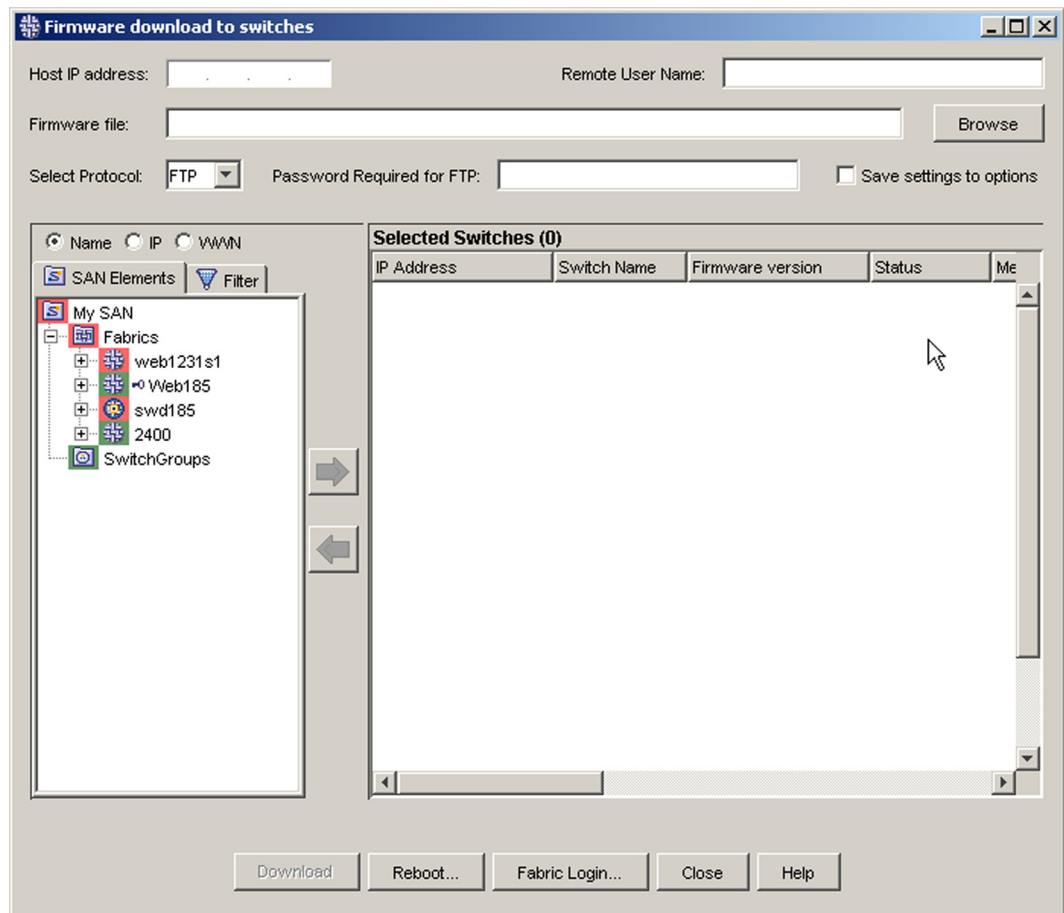

Figure 10-1 Firmware Download to Switches Window
2. From the **Tools** menu, select **Firmware download to switches...** The **Firmware download to switches** window opens. This window is displayed in Figure 10-1.